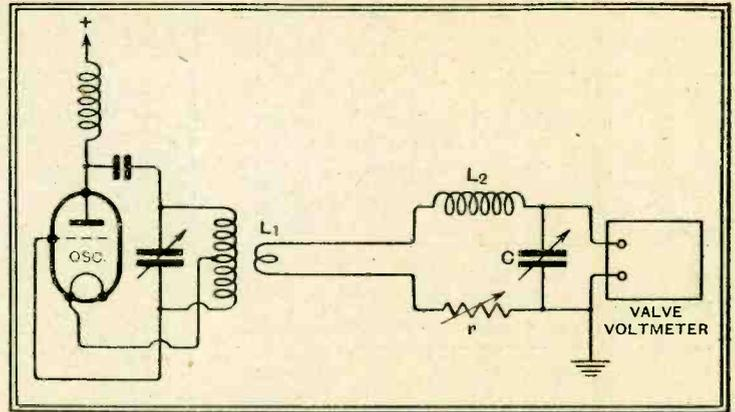

Fig. 2.—Circuit used for measurement of high-frequency resistance. The coil under examination is  $L_2$ .
Fig. 2.—The baseboard is cut away to accommodate the potentiometer R3, which is mounted on the same level as the waverange switch. Earthing connections on the metal screen are marked E.
A. Wavemeter for checking wavelength. B. Oscillator: circuit as in Fig. 2. C. two-turn pick-up coil. D. Bifilar connecting leads, 1 metre long. E. Ferrocart coil being measured. F. High-frequency resistance box. G. Tuning condenser—very slow motion. H. Valve voltmeter. K. Meters attached to H.
These two coils, together with others of more usual type, were examined for high-frequency resistance in the circuit shown diagrammatically in Fig. 2. The oscillator was set going at the wavelength for which the measurement was required, and to its coil was coupled  $L_1$ , a short-wave coil of two turns. This was joined by a pair of parallel wires one metre long and 25 mm. apart to the tuned circuit proper, consisting of  $L_2$ , the coil under examination, the tuning condenser C, and the interchangeable high-frequency resistors indicated at  $r$ . A valve voltmeter was connected across the tuning condenser for reading the voltages developed at resonance. Comparison of the voltages obtained for different values of  $r$  enables the equivalent series resistance of the complete tuned circuit to be deduced.